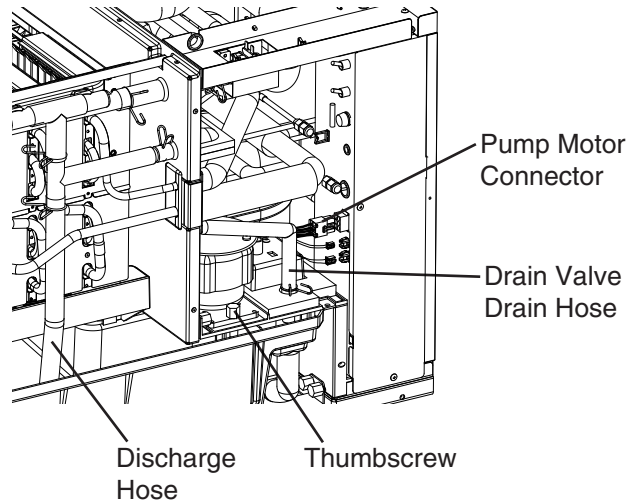

Fig. 13
- 3) Disconnect the discharge hose and the drain valve drain hose. See Fig. 13.